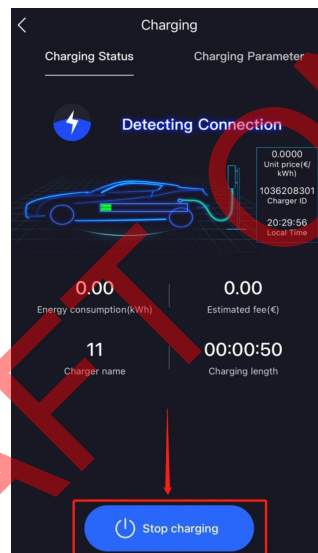

Figure 5-4: Stop charging interface
1. Open “Star Charge” APP and click the "Stop charging" icon, as shown in Figure 5-4. If successful, the status light will turn green to free mode and the charging process will stop. If the electric vehicle has been fully charged, the charger will automatically stop.